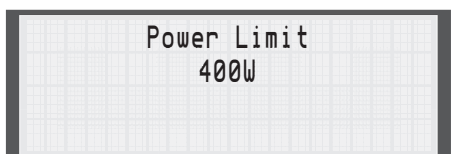

Fig. 5.21
5. Press the Power Limit key and use the Arrow keys to set the power limit, then press the Enter key (Fig. 5.21).